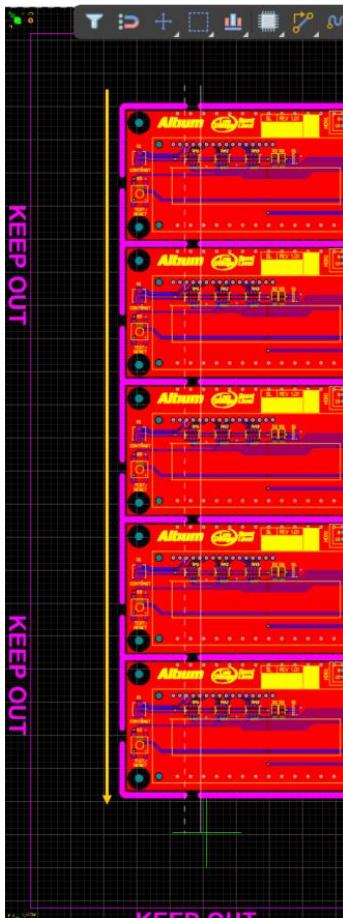

Figure 15. Vertical cut across entire panel
- b) Left-click and slice the tracks vertically across the entire panel as shown in Figure 15.